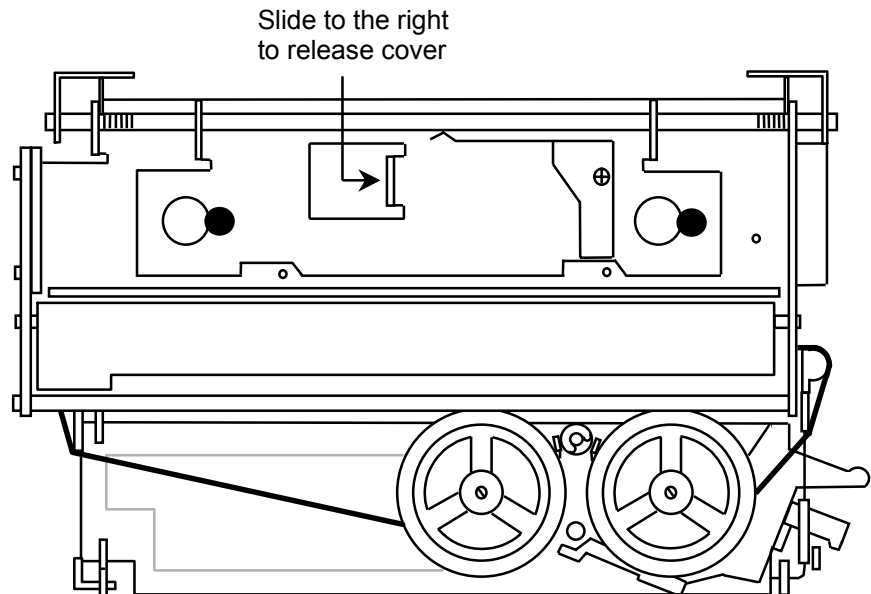

**Figure 4-4: Feeding Paper into Printer**
4. Manually feed the end of the paper into the bottom of the printer as shown in Figure 4-4.